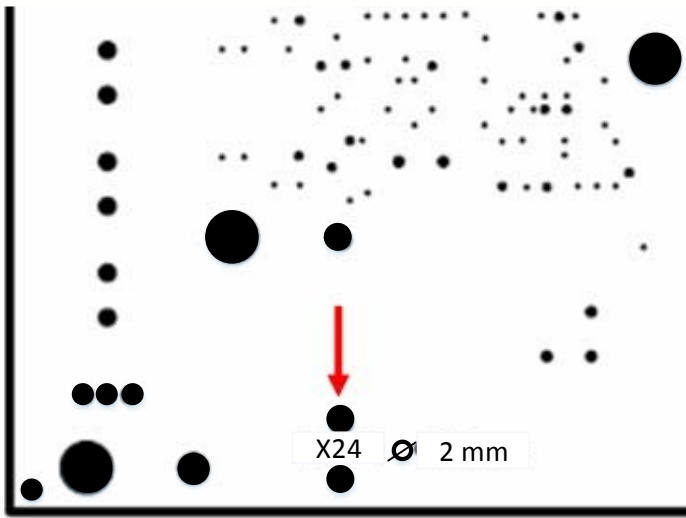

Figure 5: Position of X24
The Mounting Plate Rack WMS11 is equipped with two 6.3 mm FASTEN connectors for grounding. After delivery the 0V level is connected to the protection earth (PE). If the overall grounding concept of the whole plant makes it necessary to open this connection, it can be removed by using a 2 mm drill from the back side (lower left) of the PCB at position X24 (Figure 5).
makes it necessary to open this connection, it can be removed by using a 2 mm drill from the back side (lower left) of the PCB at position X24 (Figure 5).